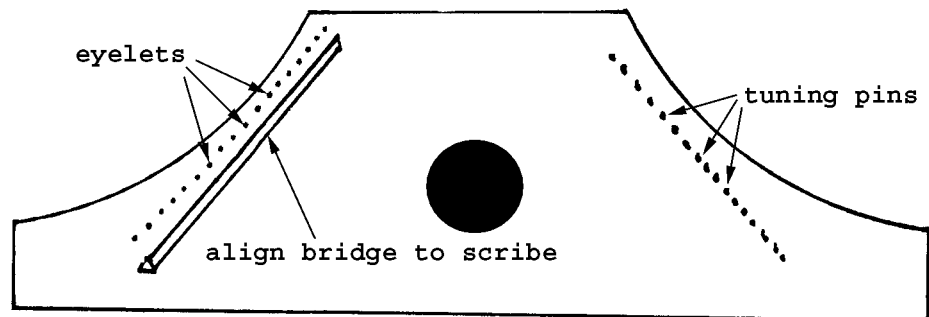

FIG. 3
3. Set the bridge on the scribed line and use masking tape to hold the bridge temporarily in place. (fig. 3) Once a few strings are installed, you may remove the tape.